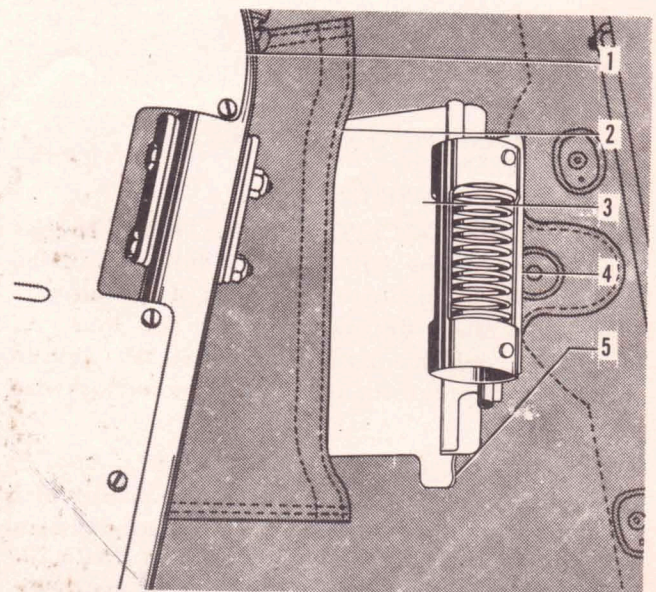

Figure 27—Writing Pad Holder
(9) **WRITING PAD HOLDER.**—The writing pad holder consists of a metal plate having lugs on the right side and a spring clip at the top. (See figure 27.) It is stowed on the left side of the windscreen, just below and left of the headrest. To use, remove it from stowage and insert the two lugs into the holes provided for them on the right cabin sill.
Parts list for figure 27.